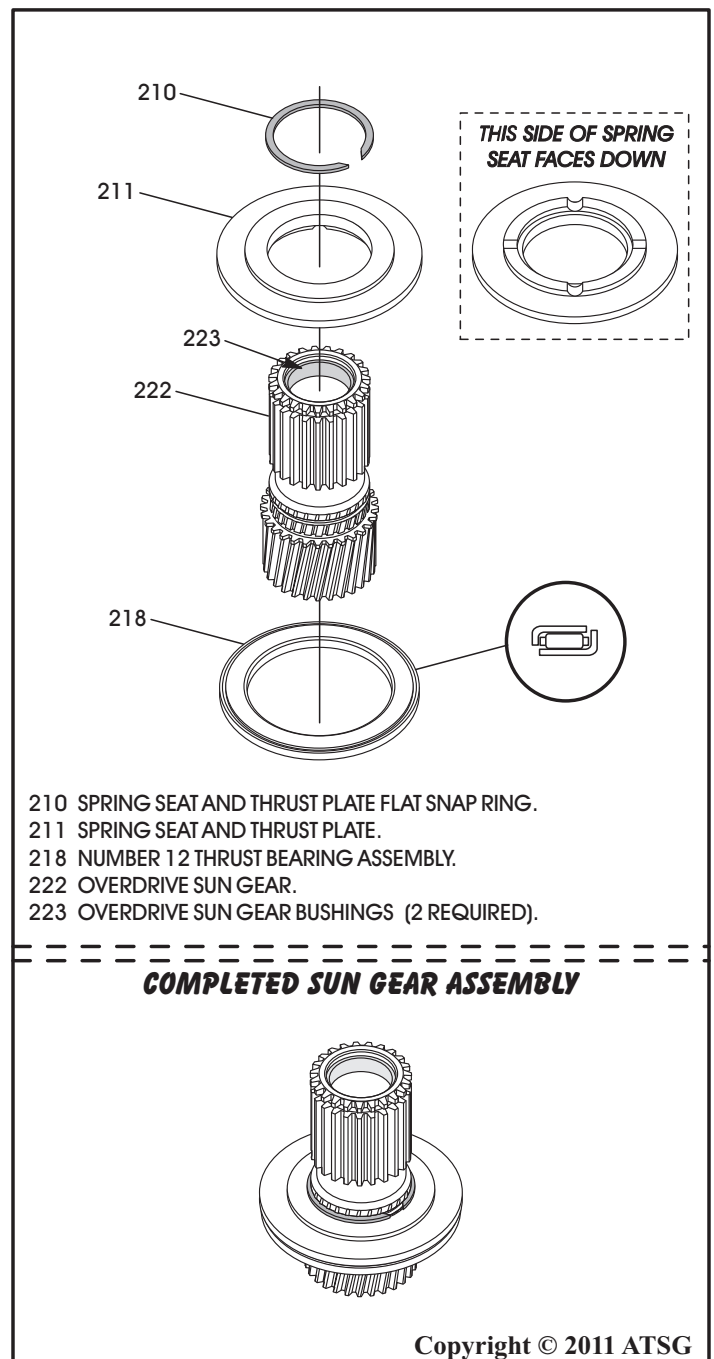

Figure 177
15. If the overdrive sun gear and spring seat were disassembled (not necessary unless damaged), install the spring seat onto sun gear in the direction shown in Figure 177.
16. Install the retaining snap ring in sun gear groove, as shown in Figure 177.
17. Install the number 12 thrust bearing in direction shown in Figure 177, on the rear surface of the spring seat and retain with liberal amount of Trans-Jel®.